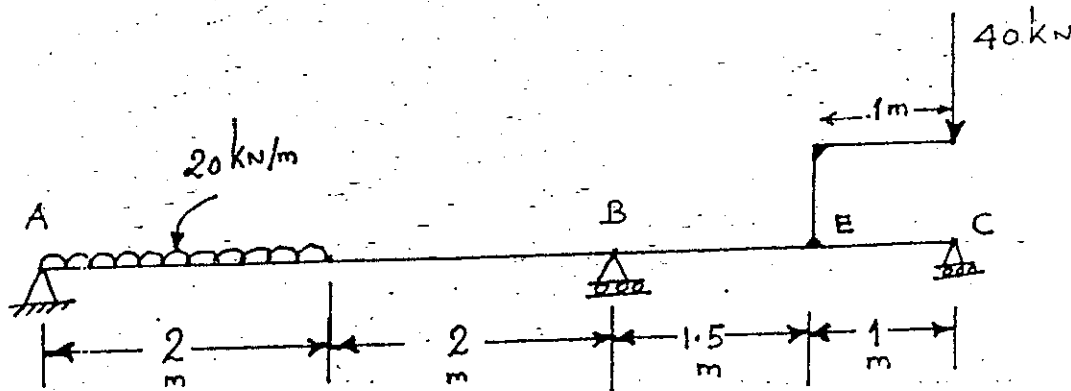

Fig.6
13. Analyse the continuous beam ABC by stiffness method. Determine support moments. Plot S.F.D. and B.M.D. Take EI constant (Fig. 6)